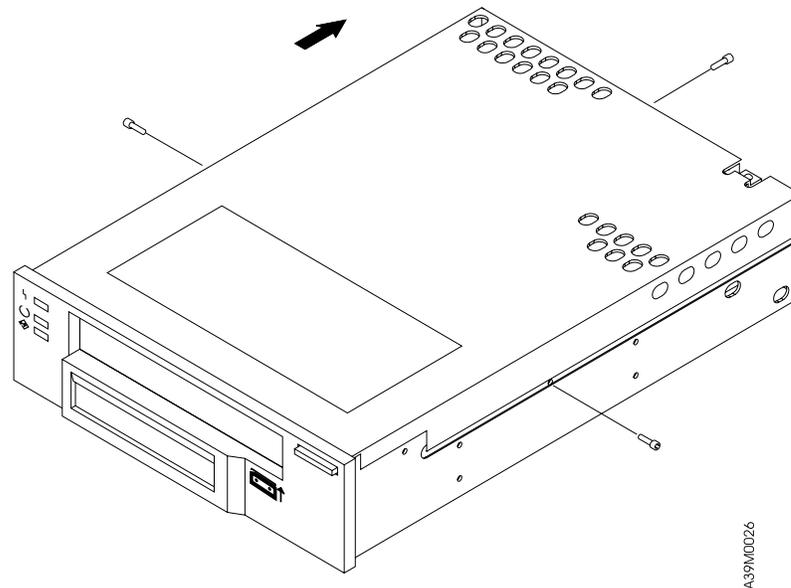

Figure 15. Removing the Top Cover of the Drive
3. Using a Torx screwdriver, remove the three T-6 screws that secure the top cover of the drive (one on the rear and two sides of the drive). See Figure 15.